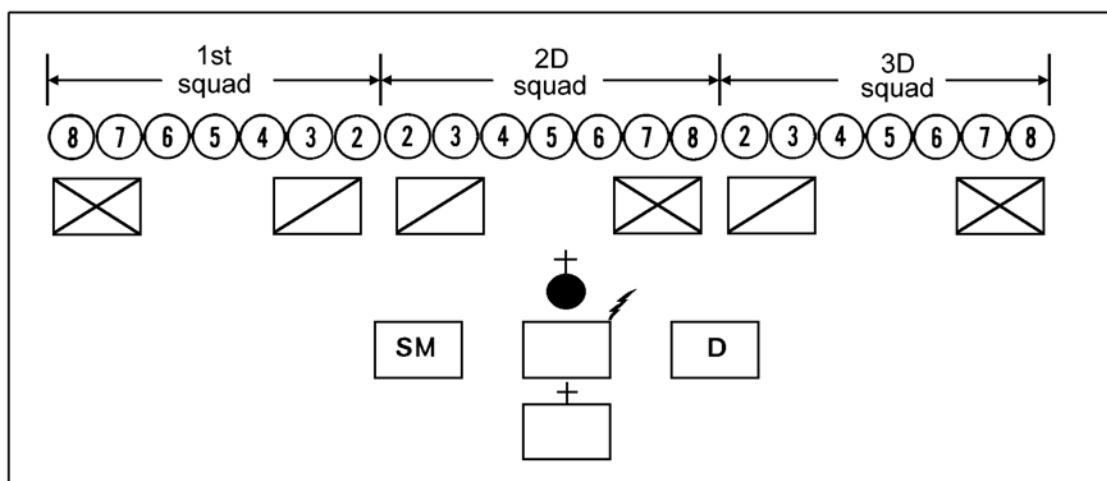

Figure 191-379-5400-1
1. Form the platoon in a platoon line (Figure 191-379-5400-1).